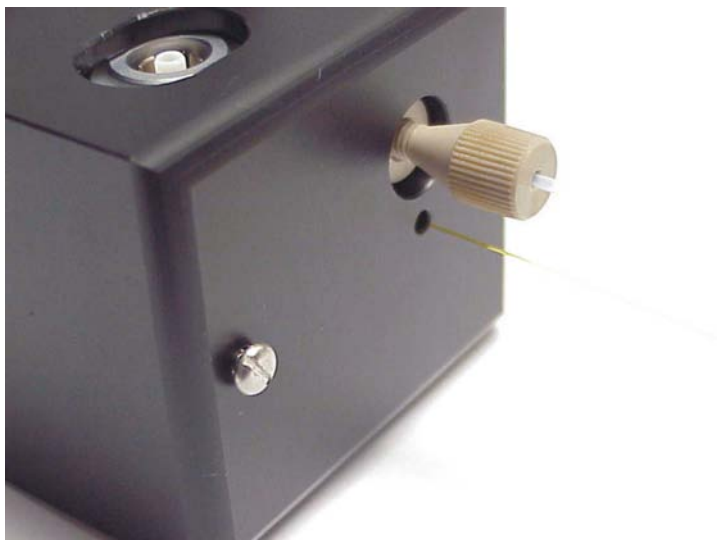

Figure 6-22 Casing Replaced
- d. Attach the probe casing to complete the assembly (Figure 6-22).